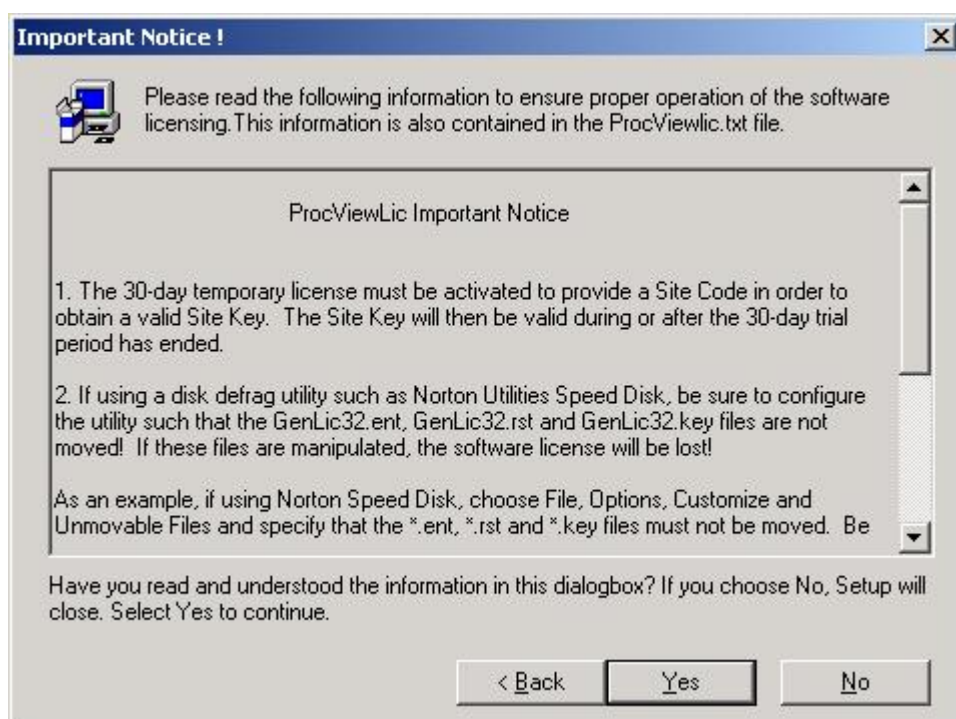

Figure 3.6. License Utility Version Information
10. Read the important notice, as shown in **Figure 3.6**. Click **Yes** to continue.